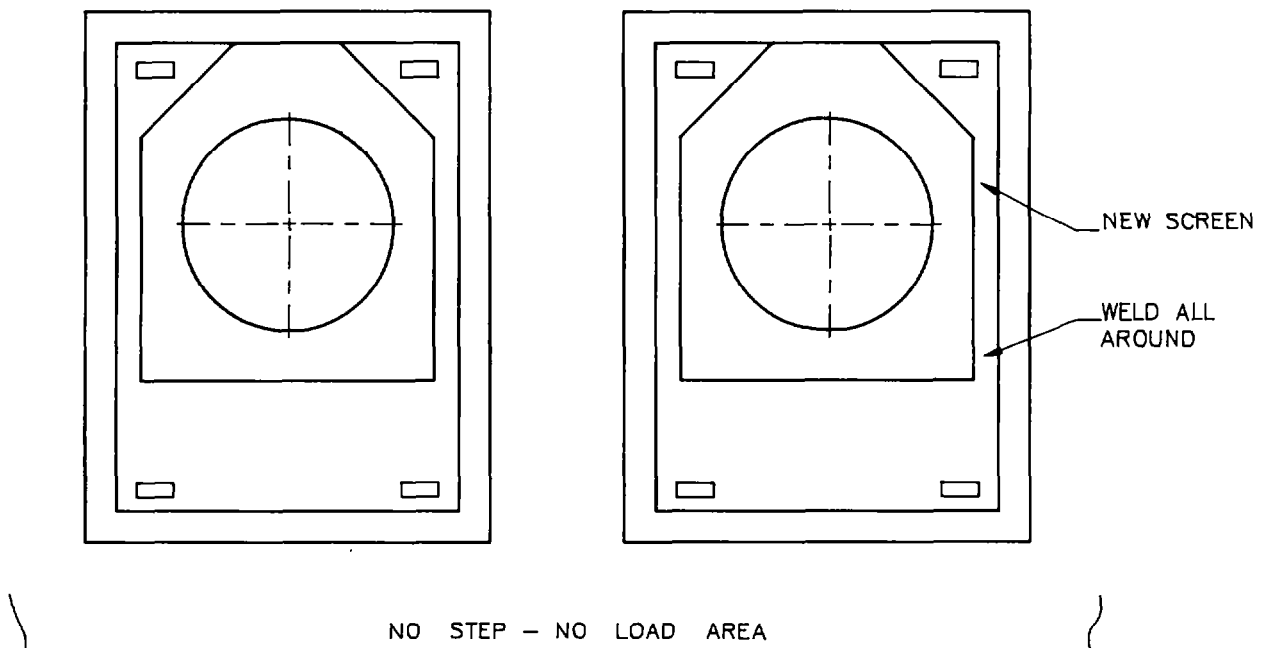

Figure 5 - Position of Condenser Fan Mesh Screens
- b. Position the new mesh screen (Item 1, Table 3) directly above the fan area so that the chamfered corners face rearwards, as shown in Figure 5.